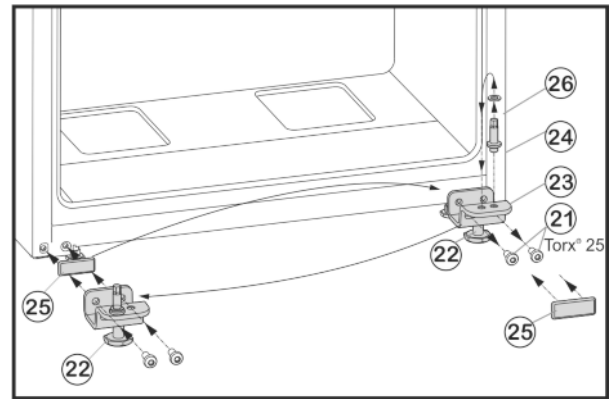

Fig. 6
- ▶ Unscrew fastening screws Fig. 6 (21).
- ▶ Remove lower bearing block Fig. 6 (23), complete with bearing bolt Fig. 6 (24), washer Fig. 6 (26) and adjustable foot Fig. 6 (22).
- ▶ Unscrew bearing bolt Fig. 6 (24) complete with washer Fig. 6 (26) and re-locate it into the mounting hole on the opposite side of the bearing block, tighten again.
- ▶ Carefully remove the cover plate Fig. 6 (25) and transfer it to the other side.
- ▶ Fasten the bearing lower block Fig. 6 (23) complete with bearing bolt Fig. 6 (24), washer Fig. 6 (26) and adjustable foot Fig. 6 (22) to the new hinge side, with the help of a cordless screwdriver if necessary, and **tighten (with 4 Nm)** once again.
- ▶ Lower the bottom door onto the bearing bolt Fig. 6 (24).
- ▶ Unscrew the adjustable foot Fig. 6 (22) on the lower bearing block Fig. 6 (23) until it reaches the floor.